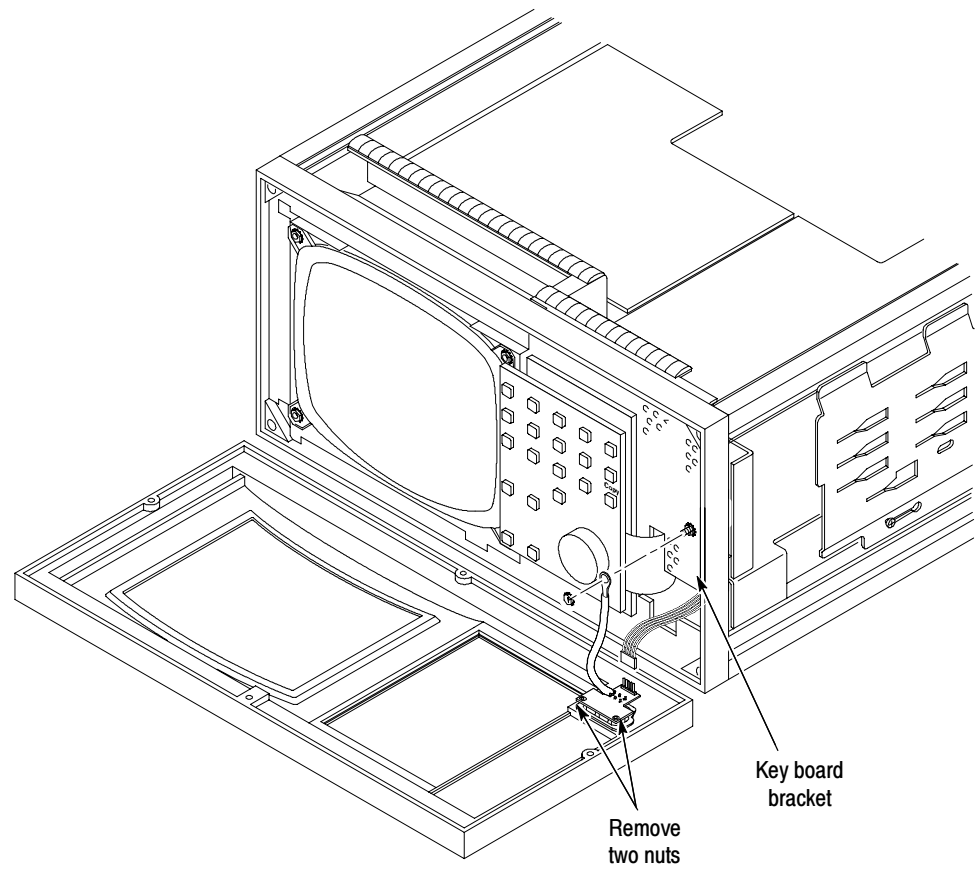

Figure 4: Disconnecting the STBY/ON switch
- c.** Disconnect the 5-conductor cable from the STBY/ON switch. (See Figure 4).
- d.** Remove the nut that holds the STBY/ON switch ground strap ring terminal to the keyboard bracket, and disconnect the ground strap. (See Figure 4).
- a.** From the circuit side of the STBY/ON switch, remove the two nuts holding the switch assembly to the bezel. See Figure 4.
- d. Connect the ground strap ring from the STBY/ON switch to the keyboard bracket. (See Figure 4 on page 7.) Reinstall and tighten the nut that holds the ground strap ring in place.